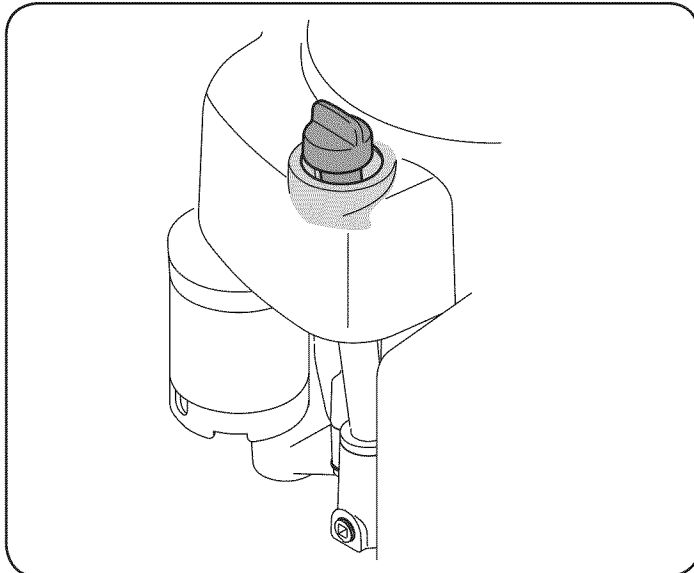

Figure 22
1. Wipe around dipstick cap and tube with a clean cloth to remove any debris. See Fig. 22.